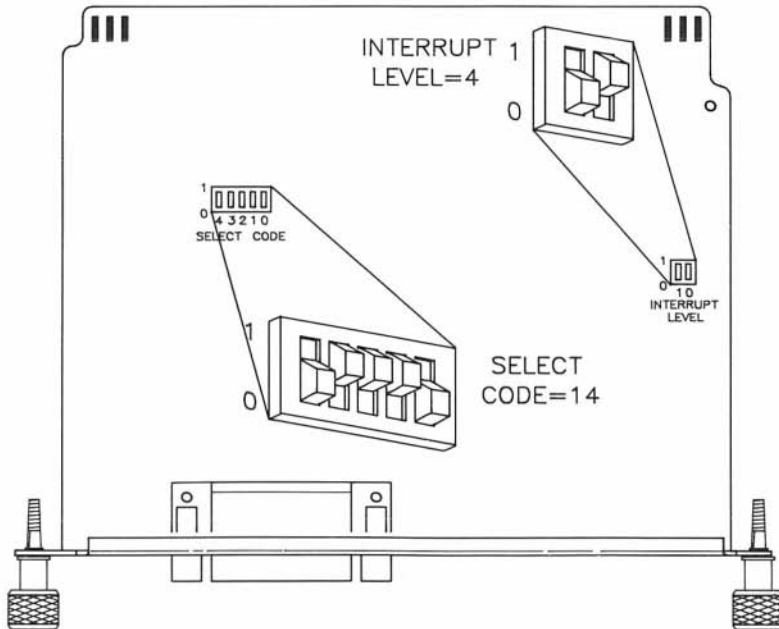

Figure 5-8. HP 98625A Disc Interface switches.
- Find the set of five select code switches by referring to Figure 5-8.
- a. Find the Interrupt Level switches by referring to Figure 5-8.
- b. If using HP-UX, set these switches to interrupt level 4 as shown in Figure 5-8. To get interrupt level 4, set the left switch to **0** and the right switch to **1**. **Do not set any other interface to interrupt level 4.**